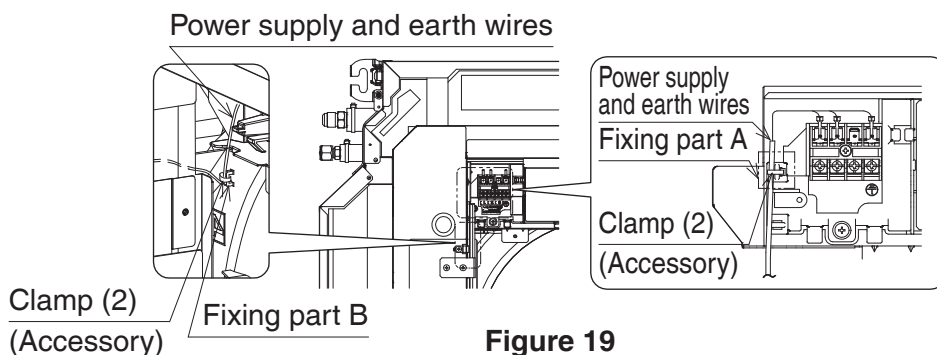

Figure 19
- * Make sure the wire harness is not caught between the decoration panel and the corner cover with operation display (5).
4. Bundling the power supply wires (black and white) and the earth wire (green or yellow), secure them to fixing part A inside the indoor unit control box and fixing part B on the bell-mouth using clamps (2). (Refer to **Figure 19**.) However, if using a harness sold separately, secure them together to fixing part B.